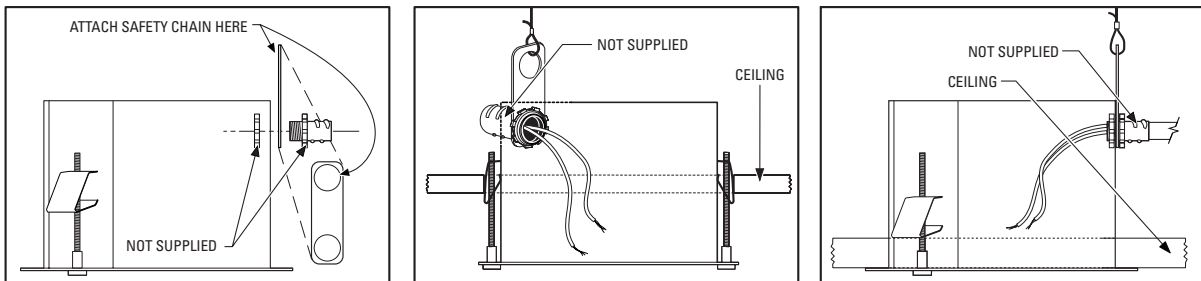

Figure 2. Installing the Back Box
4. Remove an adjacent ceiling tile. Prepare the wiring for camera and lens power; refer to Table A and Table B on page 7 for wiring distances. Pull the wiring into the back box through the conduit fitting. Attach the safety chain to a support structure (refer to Figure 2 on page 5). Replace the adjacent ceiling tile.